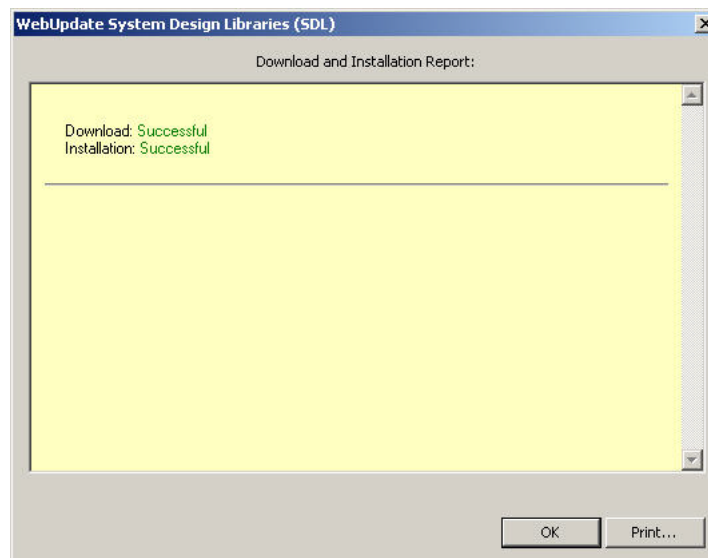

FIG. 33 WebUpdate System Design Libraries Report dialog
6. Click **Finish** to proceed. This action invokes the *WebUpdate System Design Libraries Report* dialog (FIG. 33):